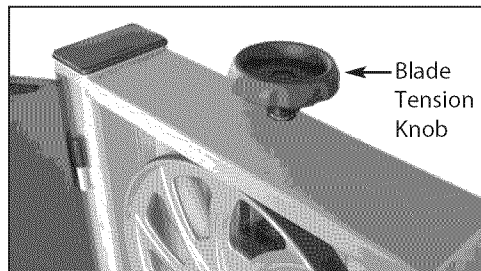

Figure 8 - Install Blade Tension Knob
- Place the blade tension knob on to the blade tensioner (see Figure 8).